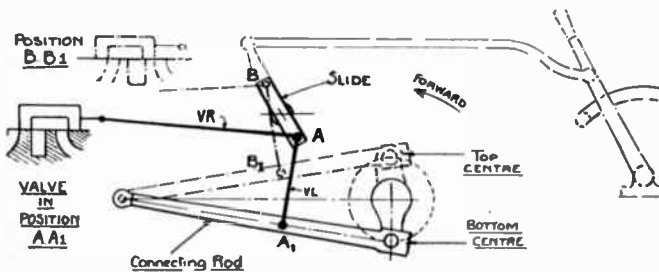
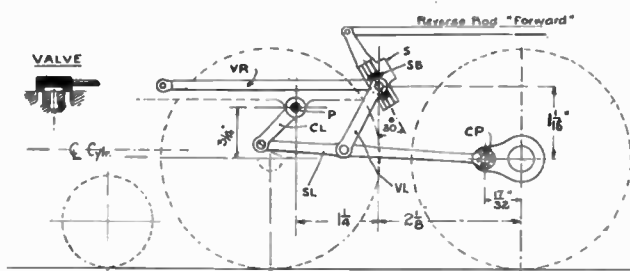
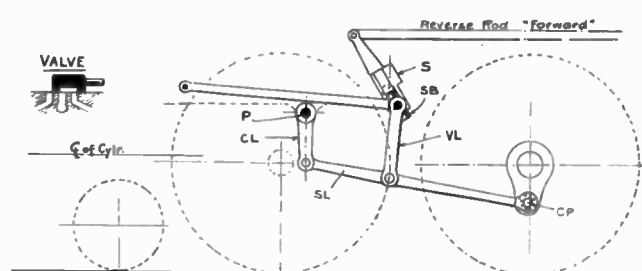

FIG. 1
FIG. 5
FIG. 6
the external appearance of the model fitted with the gear is, to a casual observer, not radically different to Walschaert's as usually applied to examples of the latest American locomotive practice. The gear is similar in its action to the primitive radial gear illustrated in Figs. 1 and 2 herewith. The vertical component of the movement of the crank is converted into a horizontal motion by a tilting slide. The timing of the horizontal movement of the valve is therefore at 90° to the horizontal movement of the piston and in this way the gear reproduces the action of the eccentric, as employed in an ordinary stationary steam engine, but provides a simple means of reversing. The slide is tilted in an opposite direction to reverse the motion. The tilting slide shaft has a suitable die block which forms a common joint for both the vibrating link (VL) and the valve rod (VR). It is also obvious that by altering the angle of the slide the valve movement can be modified in respect to both tuning and amplitude. Although not shown in the diagrams, it will readily be seen that no horizontal movement to the valve will take place if the slide is placed in a truly vertical position. The diagrams Figs. 1 and 2 show the relative position of the valve with the big end of the connecting rod on top and bottom centres, in "forward" and "reverse" positions of the gear. While the arrangement shown in Figs. 1 and 2 explains the fundamental action of the gear, it does not represent a practical form. The point on the connecting rod from which the motion is
derived (point A_1 or B_1 in Fig. 1) moves in an elliptical path and one would expect that by connecting this point to a slide block in a slide of the form shown that the four positions, mid-left, top-centre, mid-right, and bottom centre, would be reproduced in the position of the slide block in its slide, as shown in Fig. 3. Due to the effects of angularity in the vibrating link (VL) which connects the block to the connecting rod this is not so. If the mid-left and mid-right positions are arranged to come right, i. e. to coincide with a position of the slide block in the centre of the slide as shown in Fig. 4, then, due to the angularity of the vibrating link, the top and bottom position will be reproduced equally in the manner indicated by the respective dimensions of P and W in Fig. 4.
Especially where a valve with lap and lead functions is required some form of correcting gear is necessary to neutralize the disturbing effects of this angularity. There are many examples, the two best known being those of David Joy invented about 1884. Joy's gear had a considerable vogue some two or three decades ago but now only exists on various inside-connected engines such as built by the British model maker has been superseded by the writer's form of corrected gear. This gear can be applied to models of outside cylinder locomotives the drawings herewith (Figs. 5 and 6) showing its adaptation to a "half-inch" scale model such as outlined in the previous article on cylinders.
Figs. 1 and 2. Diagram of primitive form of radial valve gear in forward and reverse positions. Fig. 5. Greenly's connected radial valve gear for $2\frac{1}{2}$ " gauge. It is shown on dead center position. Fig. 6. Greenly radial valve gear shown in bottom center position
The valve gear provides for the correction of the angularity of the vibrating link (VL) by arranging the latter on a separate swing link (a miniature connecting rod), this link (SL) taking its motion from the crank pin (CP). Instead of being fixed to the crosshead the other end is supported by a link which swings from a fixed pivot (P) on the girder frame. This link is called the correcting link (CL in the drawings Figs. 5 and 6), and its function is to lift the swing link the exact amount required to neutralize the angularity of the vibrating link. This it does with mathematical accuracy and any reader can study its action quite easily by rigging up a few pieces of stiff paste board to act as links with some drawing pins as hinge joints. While such accuracy is necessary the proportions of the links are not absolutely fixed except in their relation to each other, and can be varied considerably to suit other considerations which may arise in the arrangement of the valve gear.